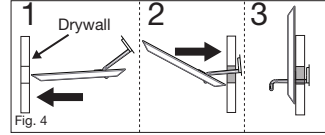

Fig. 4
13. Once the bar is completely inside the wall, pull outward/back on the flange and ensure the bar tilts upward behind the wall and straightens upright. The bar should be resting on the back side of the wall and pointing upward with the longest side at the top. **(Fig. 4)**